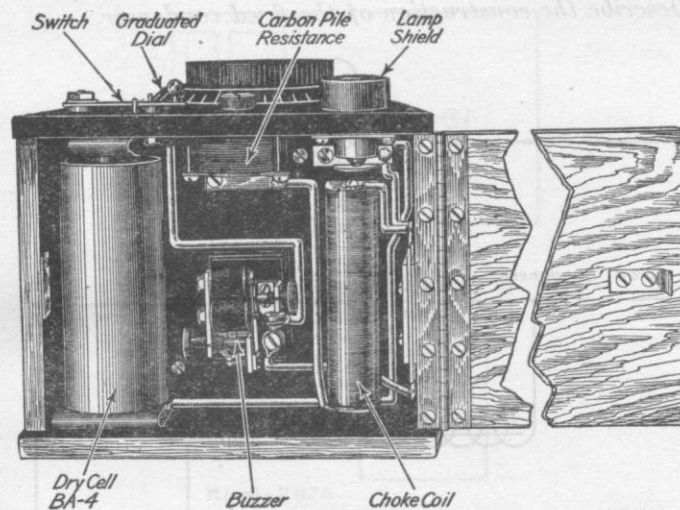

Fig. 46.—SCR-95 wave meter with side door open.
1. Examine the meter, noting all the markings on the panel. Open the door at the side and notice how the battery is inserted and the buzzer adjusted. (See Fig. 46.) Note the construction of the choke coil, the carbon pile resistance, and the small fixed condenser.